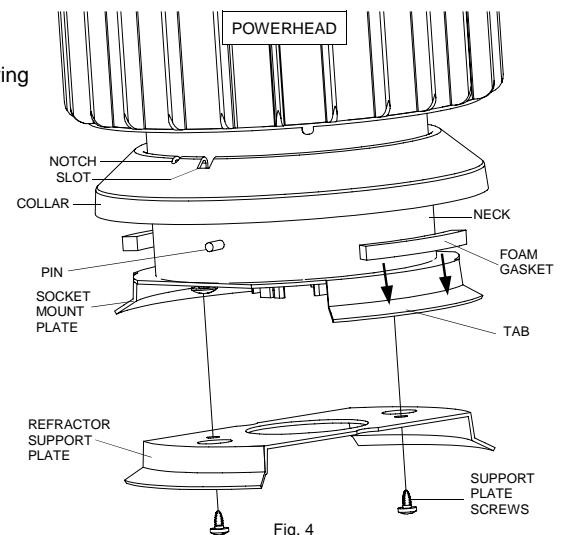

Fig. 4
2. Peel off backing of FOAM GASKET and adhere to TABS on SOCKET MOUNT PLATE. (Fig. 4)
2. Align REFRACTOR SUPPORT PLATE over SOCKET MOUNT PLATE. (Fig. 4)